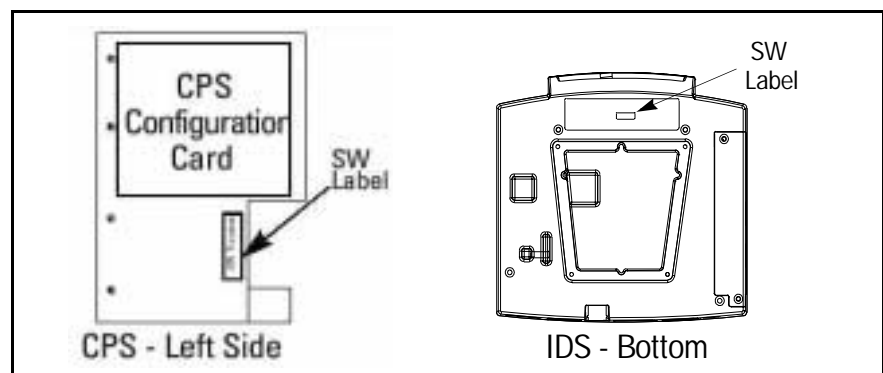

Figure 1 CPS / IDS software label
11. Affix new SW label on CPS or IDS as shown in Figure 1.